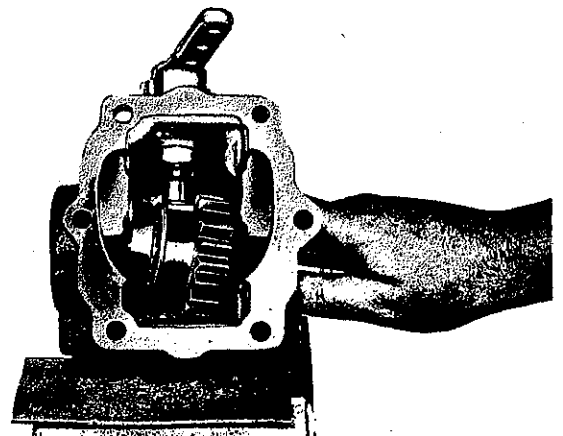

Fig. 21
3.3 Knock output shaft back until ball bearing (3) comes out of bearing seat. Remove circlip (2). Push slide gear (4) out of ball bearing and then pull output shaft out of housing (Fig. 21).